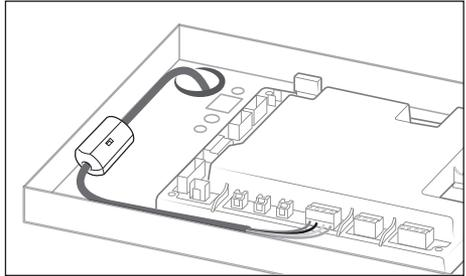

Figure 25. Install Ferrite
- To reduce electromagnetic noise, near the RS-485 connector install a snap on ferrite to the RS-485 cable, see *Figure 25*.
NOTE: When the heater is powered by 120 VAC, to reduce electromagnetic noise, run the RS-485 cable through a snap-on ferrite close to the RS485 connector, as shown in *Figure 25*. Contact Fluidra customer service for a ferrite kit (PN# R1029700), provided free of charge. (Ferrite specs: Fair-Rite PN# 0431164281).